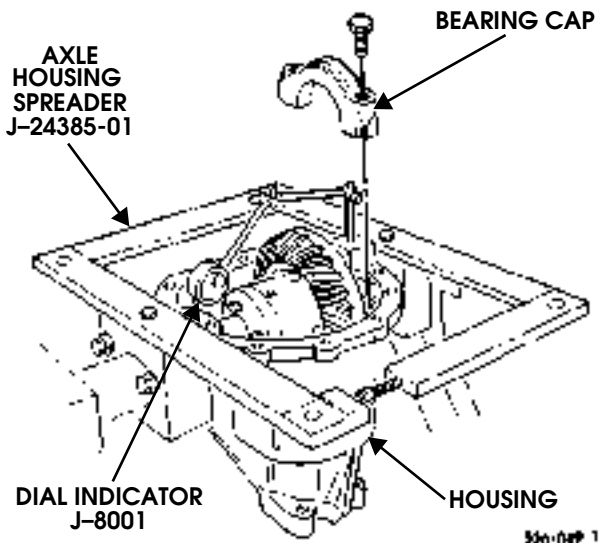

Figure 9-63: Housing Spreader Mounting
8. Mark bearing caps and housing for assembly and remove bearing caps (Figure 9-63).